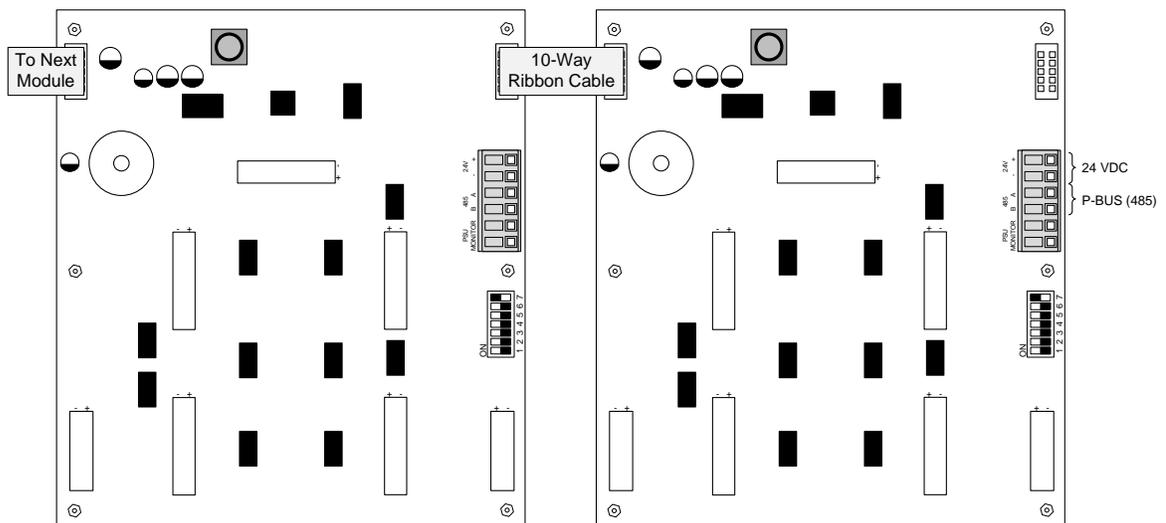

Figure 60 – Switch LED Module Daisy Chain Wiring
**Note: When utilizing multiple Switch LED Module’s within the same enclosure, 24 VDC power and the PBUS (485) wiring can be daisy chained from the first Switch LED Module to the next module, then from that module to the following module, etc. (see figure 60).**